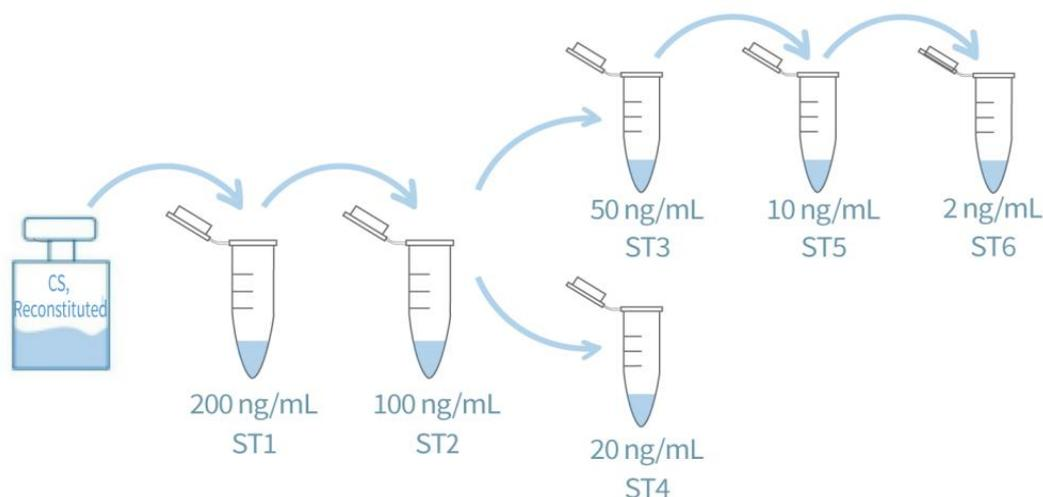

Figure 3. Graphic scheme of *P.pastoris* HCP Calibration Standard Solutions
- Prepare *P.pastoris* HCP Calibration Standard Solutions as showed in Fig 3 and Table 3.